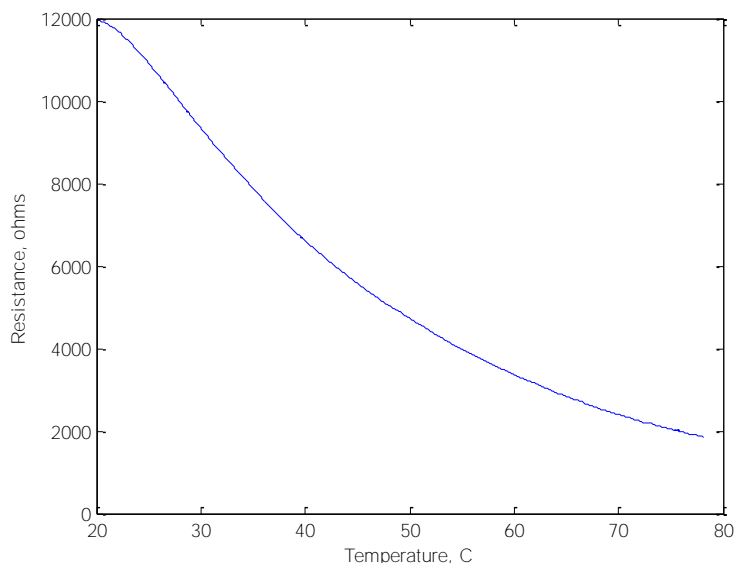

Figure 1. Thermistor temperature-resistance characteristic.
In this portion of the lab assignment, we will design and construct a temperature measurement system. The system will use a *thermistor* to detect temperature changes. A thermistor is a device whose electrical resistance changes as a function of the temperature of the thermistor. The thermistor we will use, for example, has a temperature-resistance curve approximately as shown in Fig. 1. It is worthwhile noting that the relationship between temperature and resistance is not linear. However, during the design process it is common to approximate the data as a straight line – at least over some range of temperatures.
It can be seen from Fig. 1 that the temperature can be inferred from the resistance of the thermistor. However, resistance is not a common quantity to use to represent a physical parameter – it is much more usual to use voltage to represent the parameter. (Voltages are generally easier to use than resistance to represent information. For example, digital logic circuits generally operate based on voltages applied to them.) We will design a circuit which outputs a voltage, from which the temperature of the thermistor can be inferred.
3. Using the temperature-resistance curve provided in Fig. 1, choose a value for R such that v_{out} changes by at least 0.5V over the specified temperature difference.
In general, design is an *iterative* process. As new information becomes available, the design is revised to ensure that the design requirements are met or the design requirements are revised to ensure that they are realistic. Since this is our first experience with design, we will not iterate on the preliminary design from the pre-lab. Our pre-lab analysis, however, still provides valuable information which can be used to discuss our final design performance relative to system requirements. For example, we may claim that the design requirements were not met because our thermistor did not have the sensitivity provided in Fig. 1 or that our fingertips did not apply the desired 37°C temperature. Either way, we have a reason why we did not meet the design requirements – this can be important when discussing your system performance relative to the design requirements with your customer!